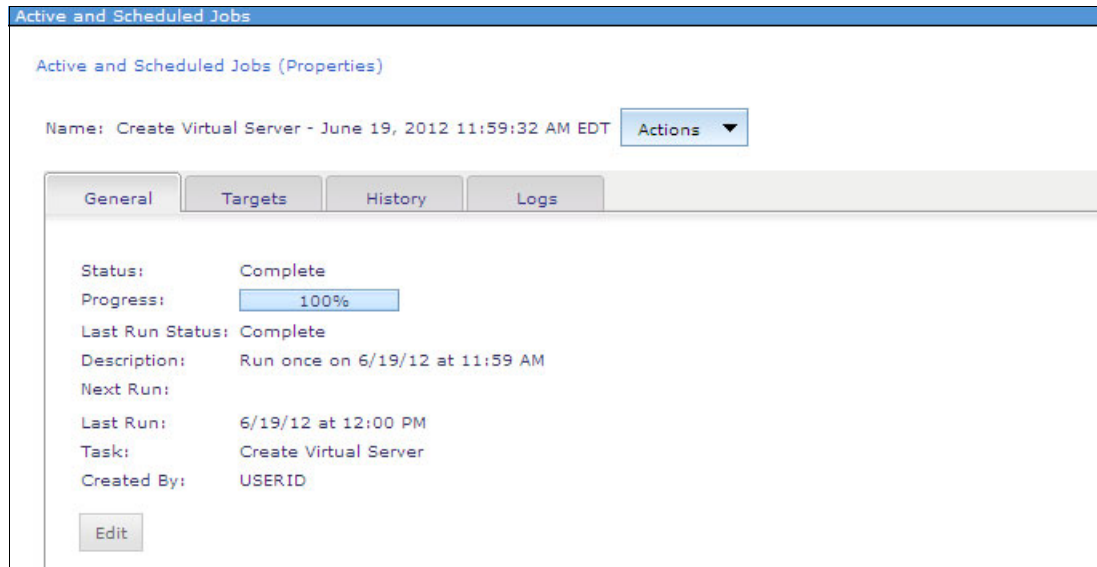

Figure 11-15 Create Virtual Server job details window
15. Ensure that the Create Virtual Server job completed successfully (Figure 11-15), and close the **Active and Scheduled Jobs** tab.